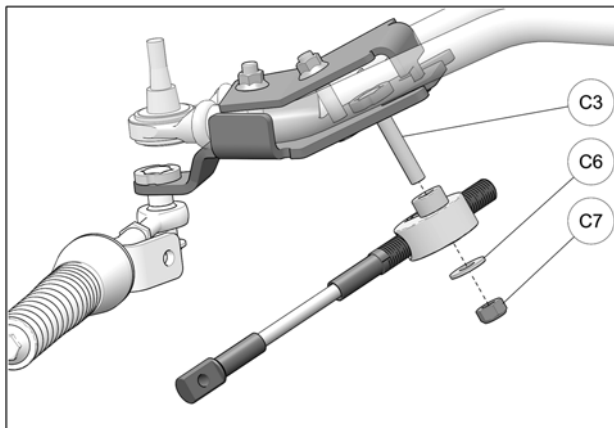

Fig. 24
13. Slip steering limiter cable assembly over bolt (C3) and use washer (C6) and nut (C7) to secure assembly to anchor bracket. Tighten nut to 50 N•m [37 lb•ft]. Refer to Fig. 24